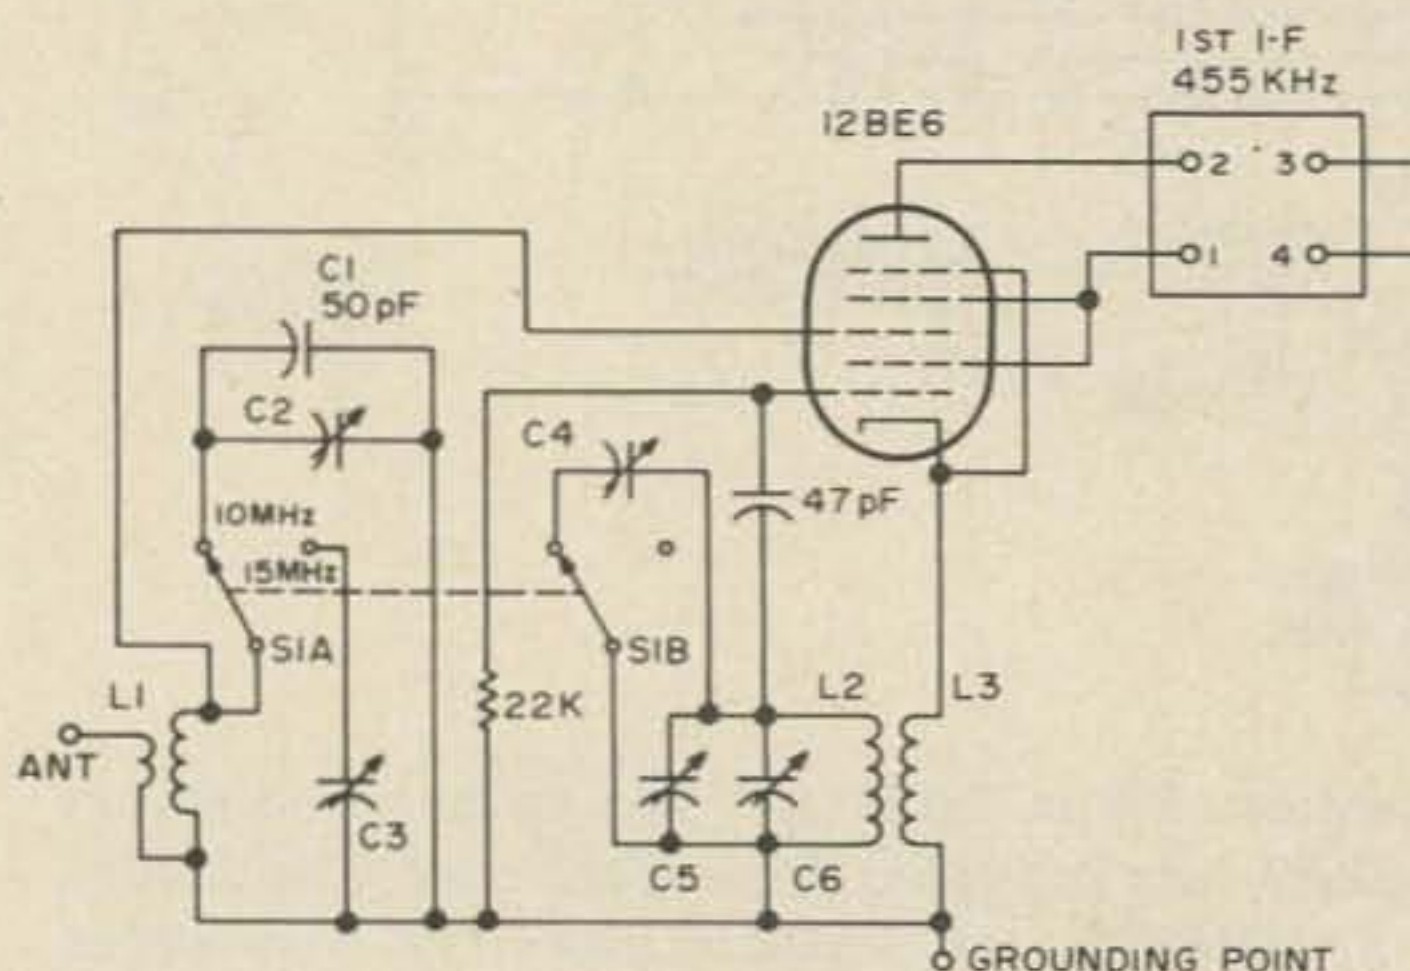

Fig. 1. Schematic diagram.
Fig. 1. Schematic of the digital interlaced sync generator. R2 is 5.6K 1/2W 5%; potentiometers are miniature and capacitors are mylar. IC-1 and 6, 9602PC, are available from Schweber Electronics, Syosset NY, \$3.00 each plus postage. IC-2 through 5, DM8520, are available from JTM Associates, P.O. Box 843, Manchester MO 63011, \$1.90 each plus postage or from Babylon Electronics, P.O. Box J, Carmichael CA 95608, \$2.00 each plus postage.
**B**y the addition of a few simple parts, the receiver in the article, "Converting the AC/DC for WWV" by W3JJU, Oct. 1971, 73 can be made selectable from 10 MHz to 15 MHz. All of the coil dimensions remain the same as in the original article and the rf and oscillator sections are retuned by switching tuning capacitors. From the circuit in Fig. 1, it can be seen that some of the parts values have been changed. Capacitor C5 is a small variable with its shaft brought out to the front panel. This is used to compensate for any oscillator drift that may be encountered during warmup. During calibration, this capacitor should be in the